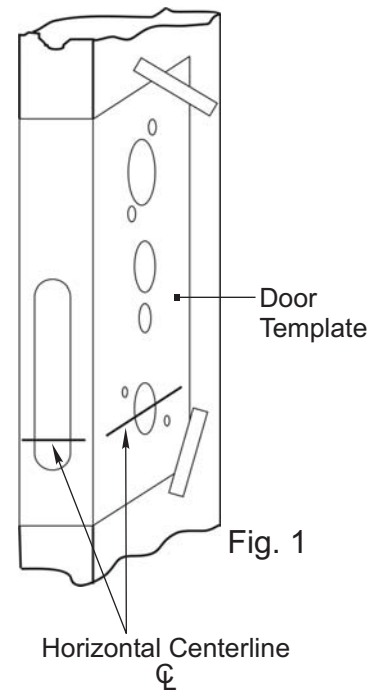
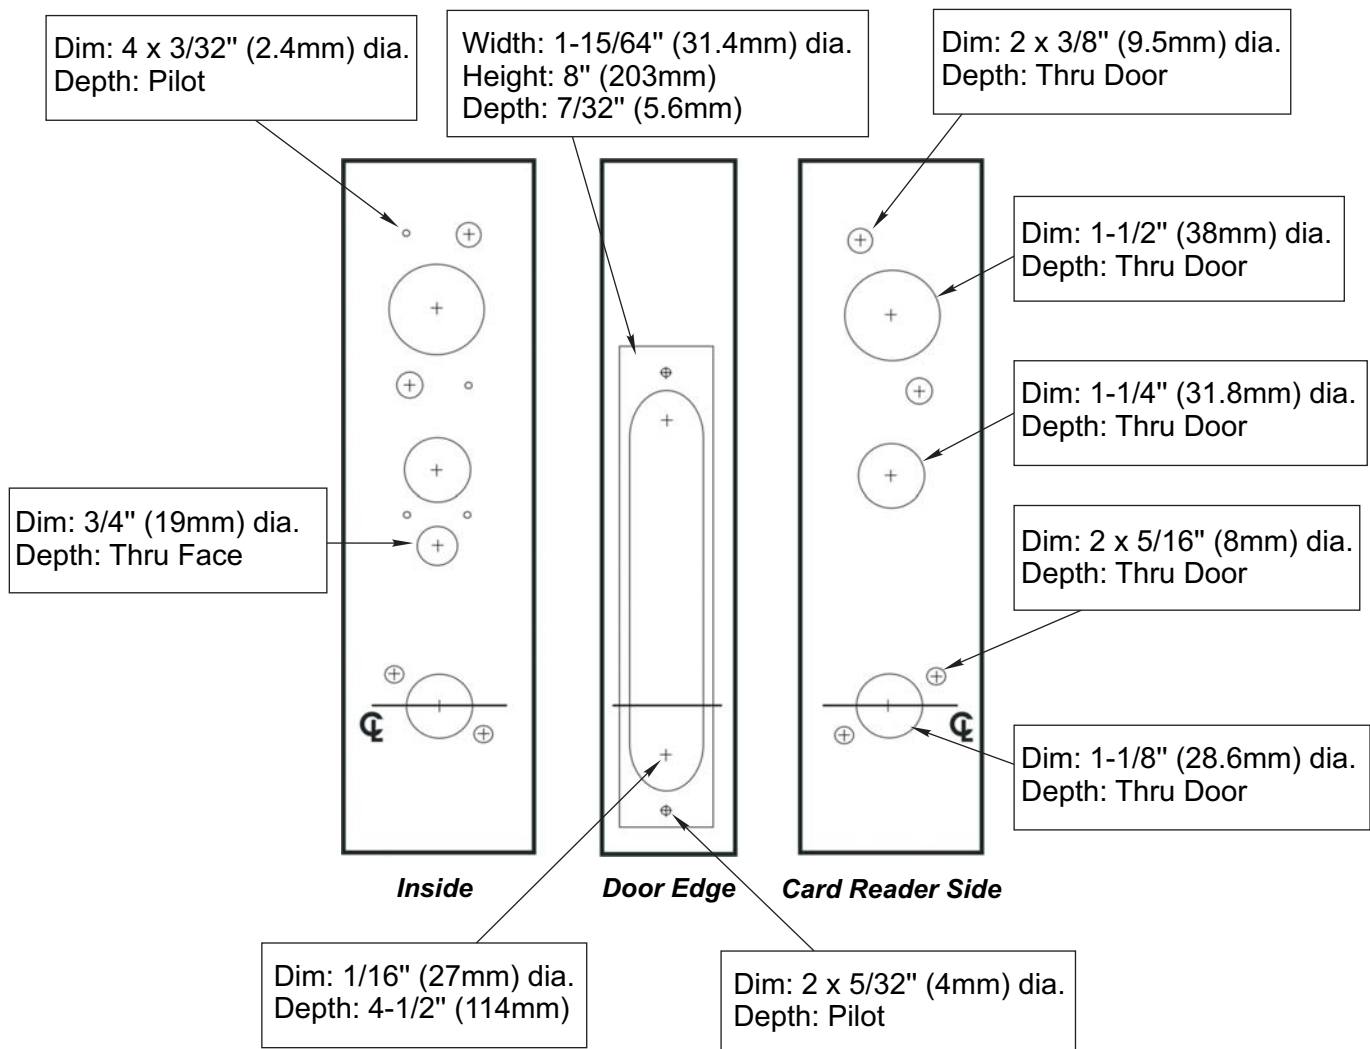

Fig. 1
Fig. 2
- Wrap the template around the door aligning the centerline on the template with the ones drawn on the door (see Figure 1). Mark the center of the holes so they can be seen on the door.
- Drill holes and cuts as specified in Fig 2 on Page 6.
- b. Wrap the template around the door with centerline at desired height from finished floor (standard is 40-5/16"). See Figure 1, Page 5. Mark items on the door as explained on Figure 2.